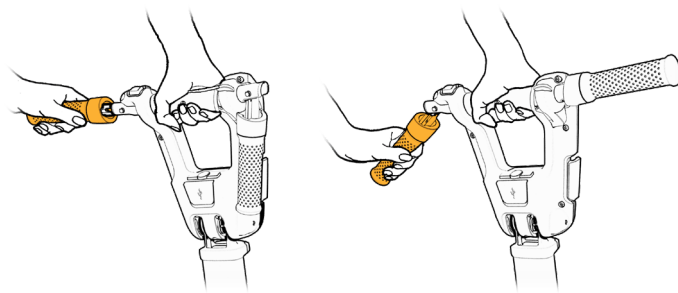

Figure 37
2. Fold both sides of the handlebar (see Figure 37).